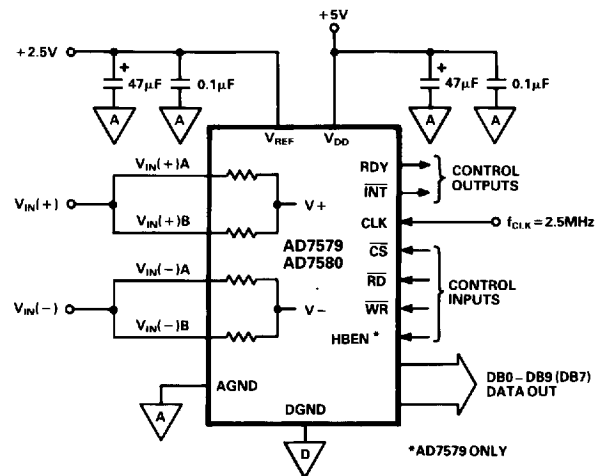
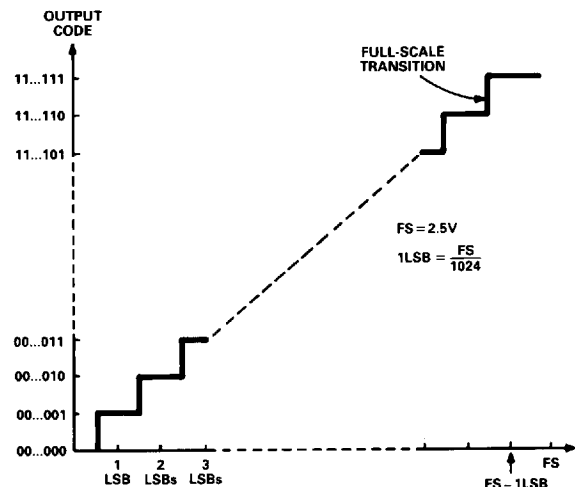

Figure 12. Unipolar 2.5V Operational Diagram
Figure 13. Ideal Input/Output Transfer Characteristic
Figure 12 shows the AD7579/AD7580 connected in the standard unipolar mode. Figure 13 and Table V show the ideal input/output
Table V. Input/Output Code Table for Figure 12
*DECOUPLING CIRCUITRY AND CONTROL CIRCUITRY AS IN FIGURE 12
In many cases, users of the AD7579/AD7580 will want to measure single-ended input voltages (i.e., ground referred signals). The circuits of Figures 12, 14 and 15 can be easily adapted to accept such signals. If $V_{IN}(-)$ in Figure 12 is tied to AGND, then the analog input range is 0V to +2.5V. By connecting $V_{IN}(-)$ of Figure 14 to AGND, the analog input range becomes 0V to +5V. Figure 15 can be modified as in Figure 16 to accept input voltages in the range -2.5V to +2.5V. Each of these circuits are special cases of the Differential Input circuits and are achieved by making the negative input to the internal comparator equal to AGND.